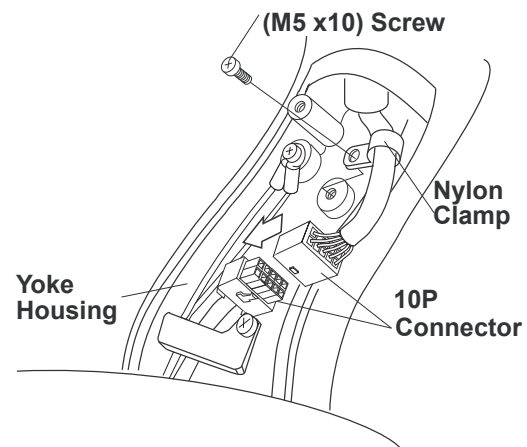

Fig.3-18 Connection 10P Connector in Yoke
6. Loosen the (M5 x 10mm) screw and remove the nylon cable clamp from the yoke housing. Place cable clamp on the balance arm cable. Connect the 10P connectors, and then attach the balance arm cable to the yoke housing with the nylon cable clamp. (**Fig.3-18**)